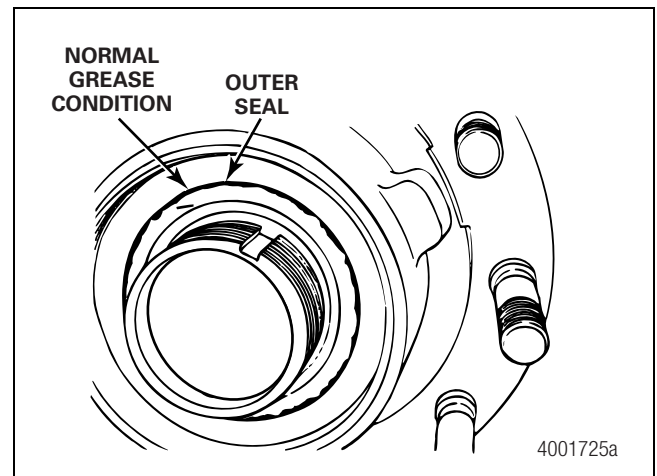

Figure 2.9
- Check the hub outer grease seal for leakage. A small bead of grease around the perimeter of the seal is normal. Figure 2.9.